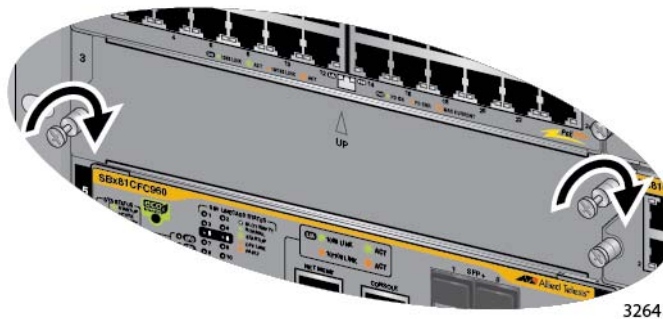

Figure 104. Tightening the Thumbscrews on a Blank Slot Cover
2. Finger tighten the two thumbscrews to attach the blank panel to the chassis, as shown in Figure 104.